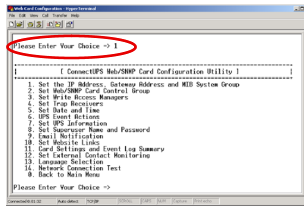

Figure 9. Card Settings
10. Type **1** and press **Enter** on the Main Menu to display the Web/SNMP Card Settings screen (see Figure 9).